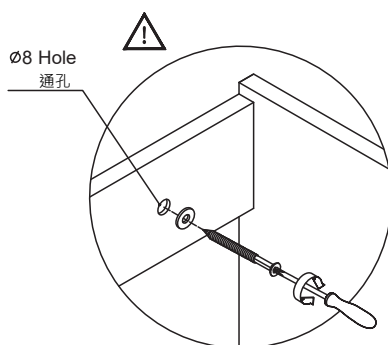

Fig.6
11. Apply a washer to the screw before tighten it. Make sure the washbasin cabinet has been fixed firmly on the wall, as shown in Fig.6.